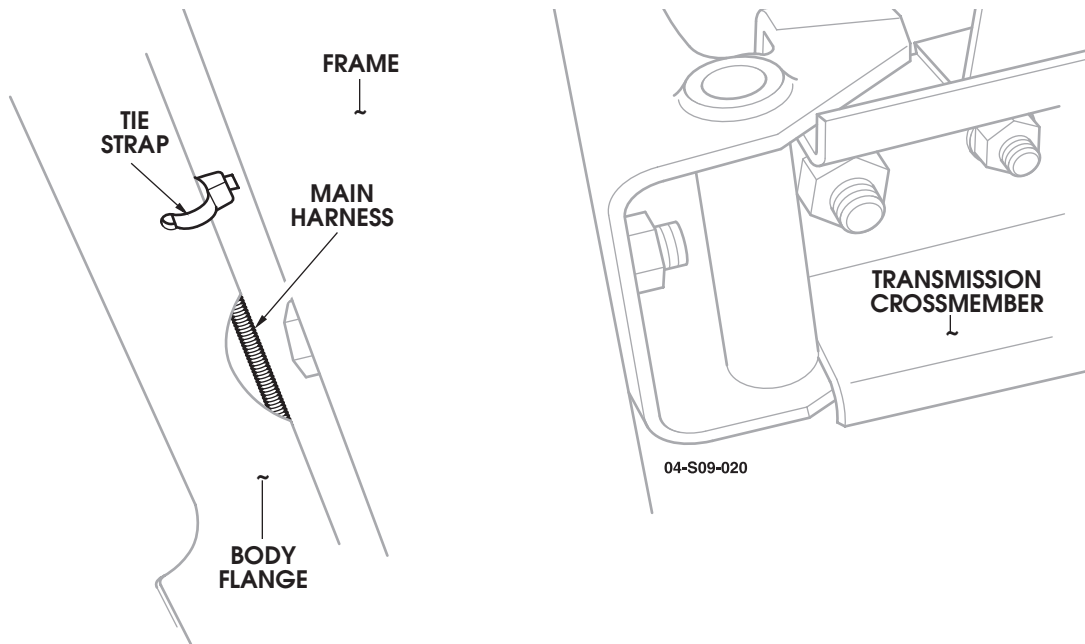

Figure 17: Securing the main harness to the body flange.
30. Locate the body flange adjacent to the transmission cross member and drill a 3/16 inch hole in the flange (See Figure 17). Using a tie strap, secure the harness on the upper side of the body flange.